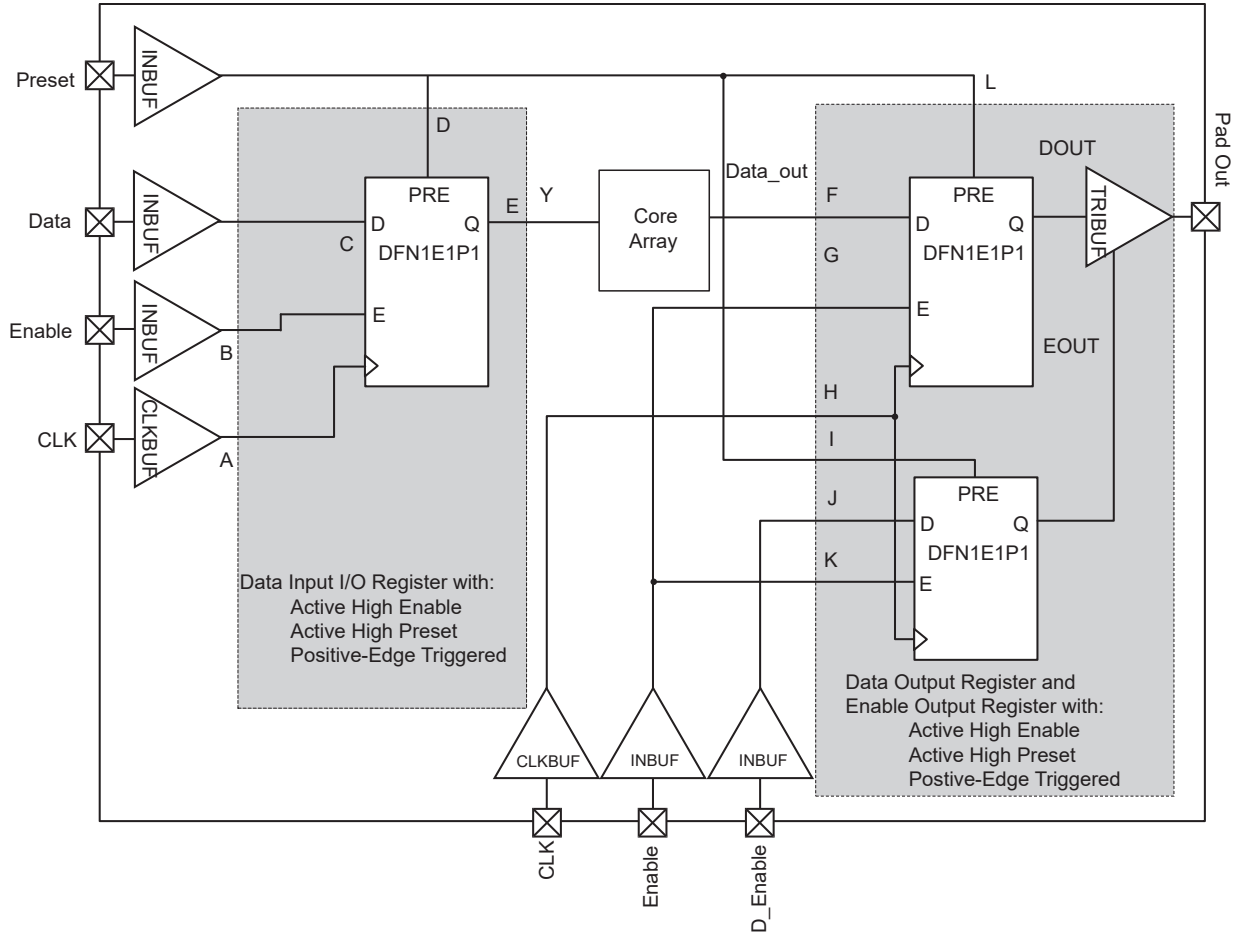

Figure 2-10 • Timing Model of Registered I/O Buffers with Synchronous Enable and Asynchronous Preset
*Note:* \*See Figure 2-10 on page 2-38 for more information.